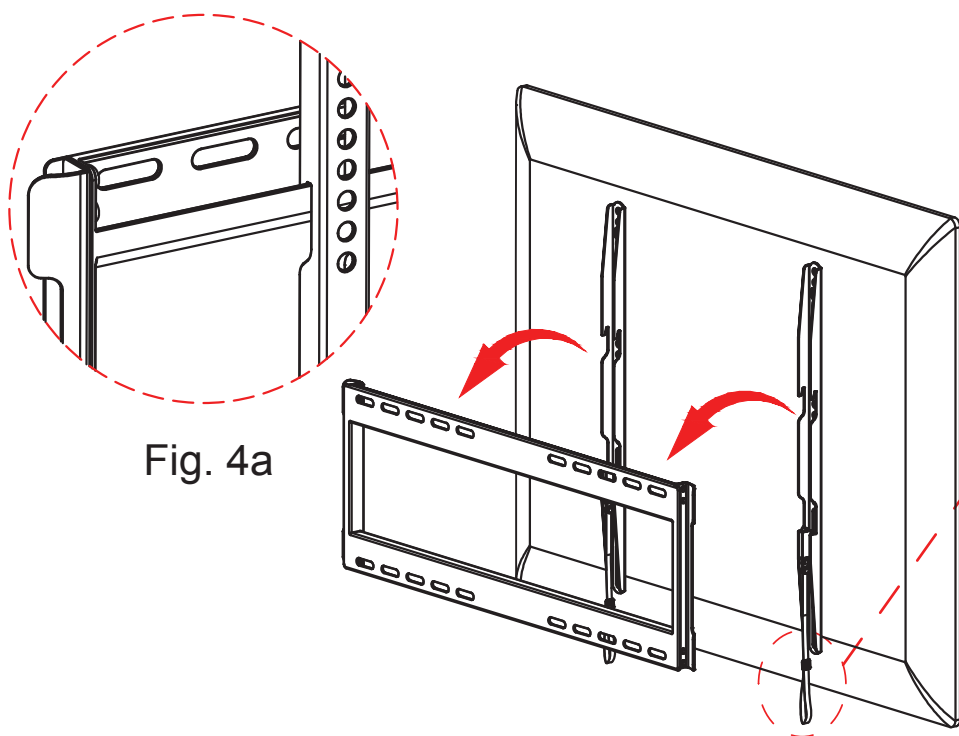

Fig. 4a
1. Lift the Television display with the brackets attached and carefully hang the top hook of the **Brackets (2)** over the top bar of the **Wall Plate (1)** as shown in (Fig. 4a). Carefully lower the display down.